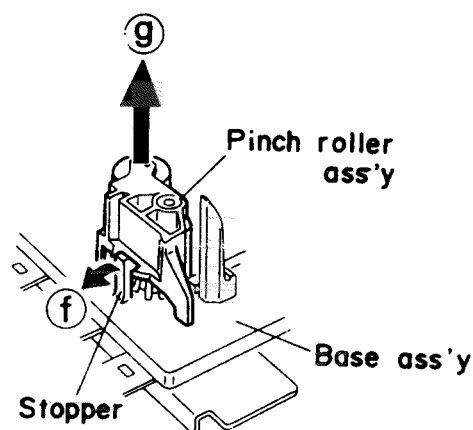

Fig. 2-24
■ Pinch roller assembly (Fig. 2-24)
1. Pull out the stopper protruding from the base assembly in the direction of the arrow ⑥ to remove it from the pinch roller assembly.
2. Then, pull out the pinch roller assembly in the direction of the arrow ⑨.